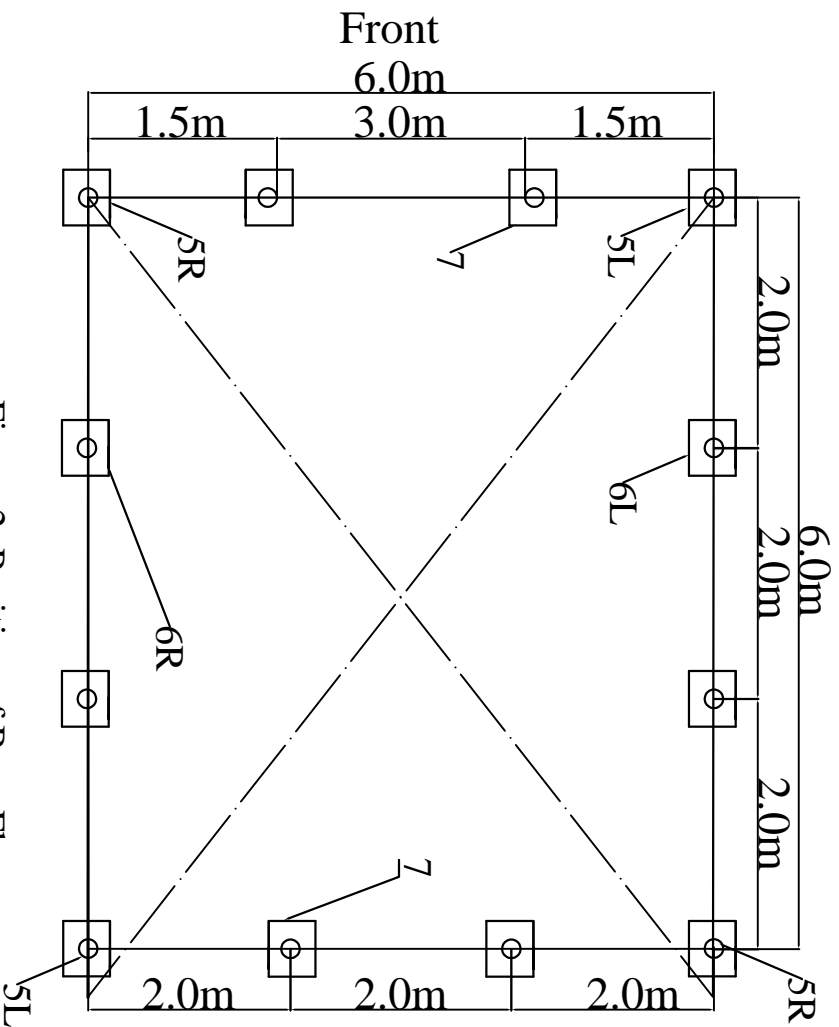

Figure 2 Position of Base Flanges
Begin by determining exact location of the four (4) corners of the building. Mark front edge and side-to-side width of assembly on ground. Drive alignment stakes into the ground outside of the markings, and draw alignment strings along both ends and sides of the building to the dimensions shown in Figure 2. The outline of the strings will represent the final location of the base flanges. The initial location of each Corner Base Flanges is critical to the alignment and fit of the frame components and cover. Locate the Left Corner Base Flange and Right Corner Base Flange. Secure the base flanges with Stake Pegs. Measurements shown in Figure 2 are to the center of the upright sockets on each Base Flange.